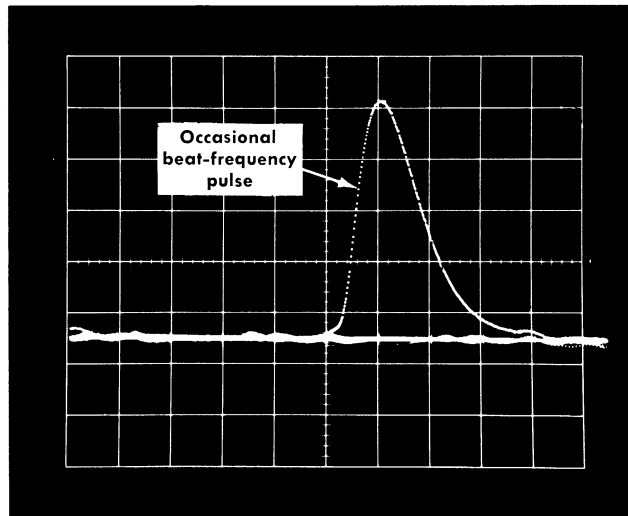

Fig. 5-18. Typical waveform for checking real-time clock oscillator. Waveform shows beat frequency of 10  $\mu$ sec markers with 100-kc sampling rate.
f. **Check** for a straight line display with occasional wide marker pulses (see Fig. 5-18). The crt display is a beat-frequency waveform representing the difference between the 100-kc marker rate and the 100-kc oscillator rate.